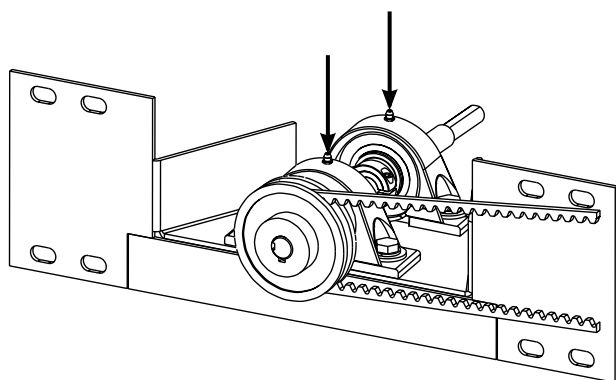

Figure 4-41.
Grease the two (2) main blower fan shaft bearings (Figure 4-41), using a special grease (MMP/N 17110-0015 lithium-base, high-temperature grease). **ONLY ONE STROKE** of a grease gun is required for each bearing.